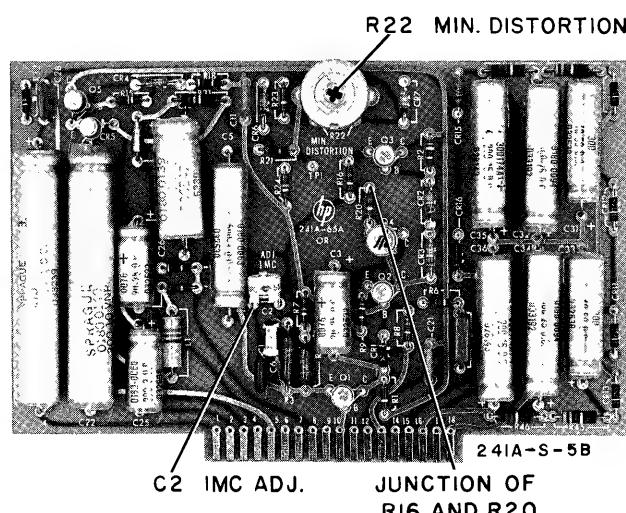

Figure 5-5. Amplifier Board Assembly
Paragraphs 5-18 to 5-21, Figure 5-5 and Table 5-4
- n. Measure DC Voltage between ground and junction of R16 and R20 (see Figure 5-5). Adjust the value of R7 to obtain a reading of -1.0 ± 0.5 volts.
- e. Adjust C2 (see Figure 5-5) for an indication of 903 KC.